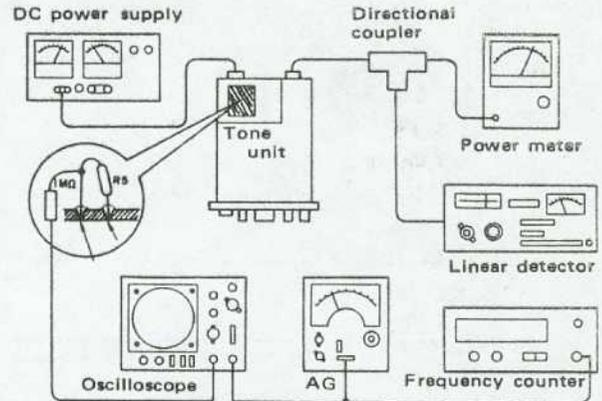

Fig. 27 Tone Unit Adjustment
- (2) Connect the test equipment to Fig. 27.
- (3) Adjust VR1 until the wave of oscilloscope reads circle.
- (4) Check that. Set the AUX switch is at OFF.